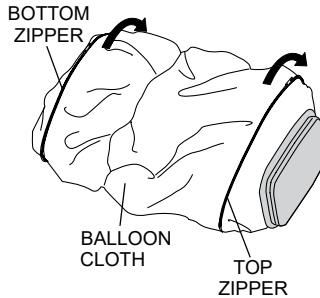

Figure 33. Unzipping the Balloon Cloth
1. Unzip the zipper (Figure 33) at the top and bottom of the balloon cloth.